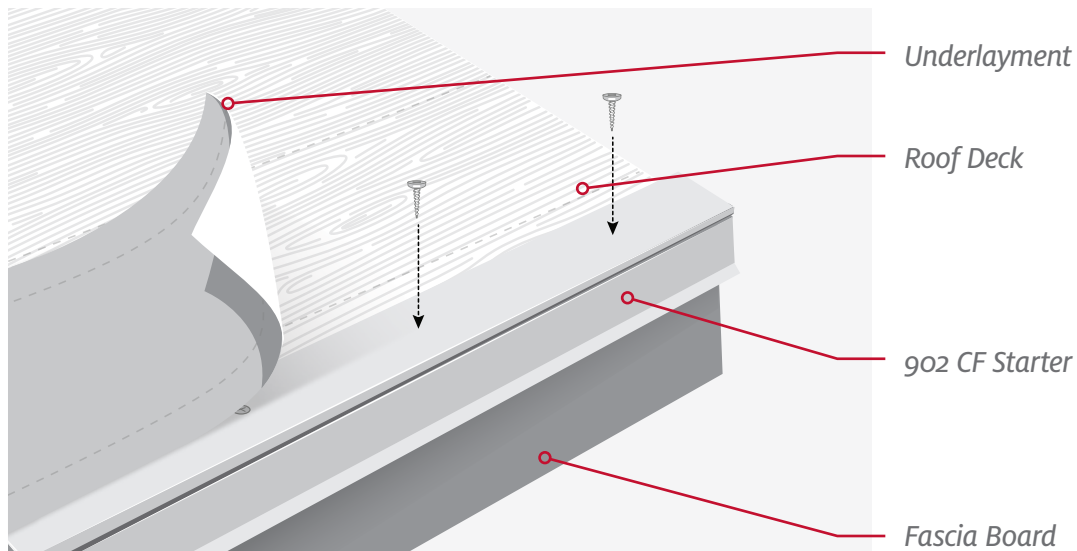

FIG. 01.A
1. Position 902 CF Starter flush with fascia (*Fig. 01.B*). Fasten 6-8" OC using #12 x 1 1/2" screws or 8d ring shank nails.